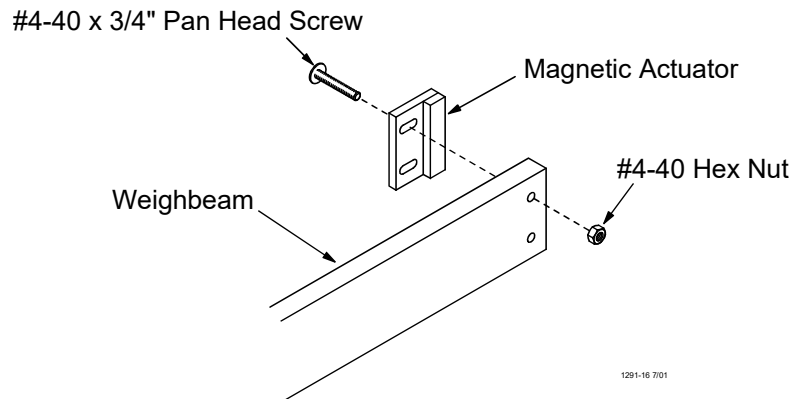

Figure 12. Mounting the Magnetic Actuator on the end of the Weighbeam
4. Mount the 5789 Magnetic Actuator on the end of the Weighbeam using the two #4-40 x 3/4" Round Head Screws provided. See **Figure 12**.
5. Install the Weighbeam Assembly in the Beam Box. Attach as shown in **Figure 12**.